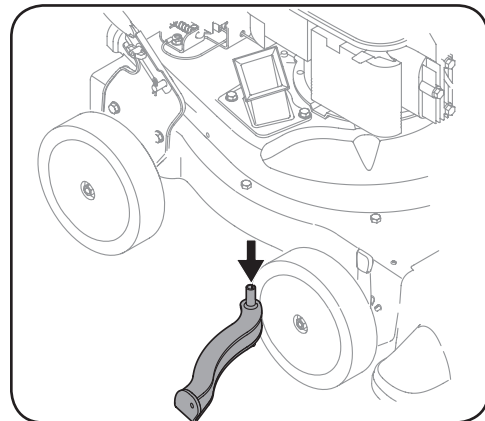

Figure 5-3
6. Remove and clean the screen by scraping or washing with water. See Figure 5-3.